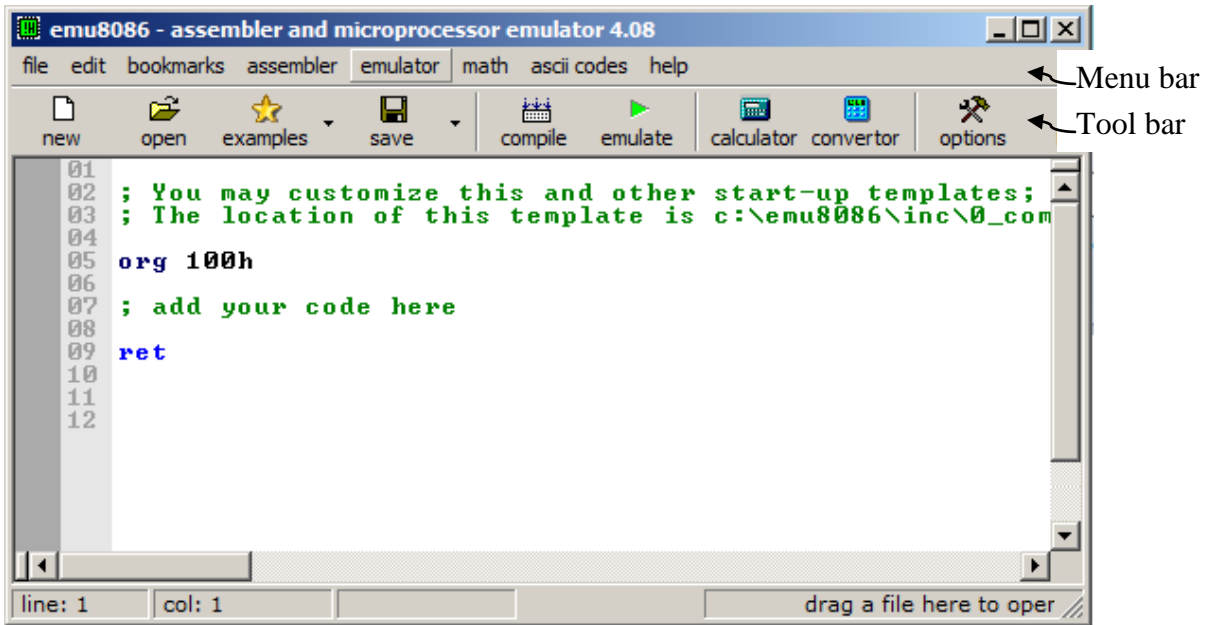

Figure 2: An opened COM file
1. When opening EMU8086 program, select COM file to write your Assembly language code, where the window shown in *figure 2* will be opened. A COM file is a simple tiny executable file, in which assembly language programs can be written.